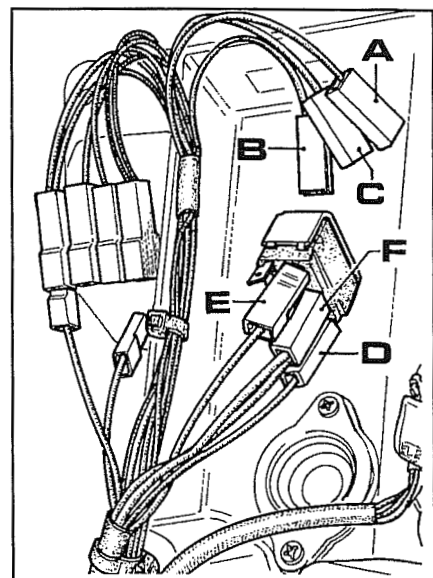

Fig. 44
8. Connect the tractor wiring harness wires **D-E-F** to the raise/lower switch with the following match up scheme (see Fig.44):